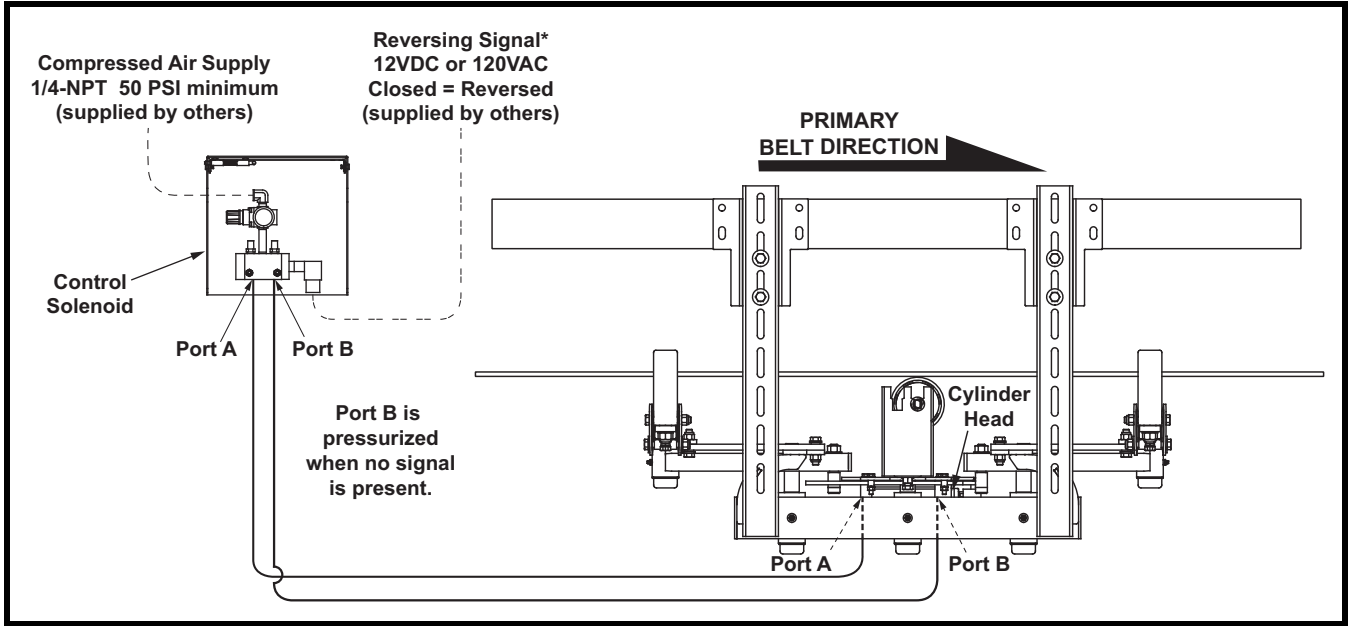

Figure 5. Air Cylinder Controls
3. See Figures 5 and 6 for air cylinder switching mechanism installation orientation.
4. Install air supply line to control solenoid as shown in Figure 5.